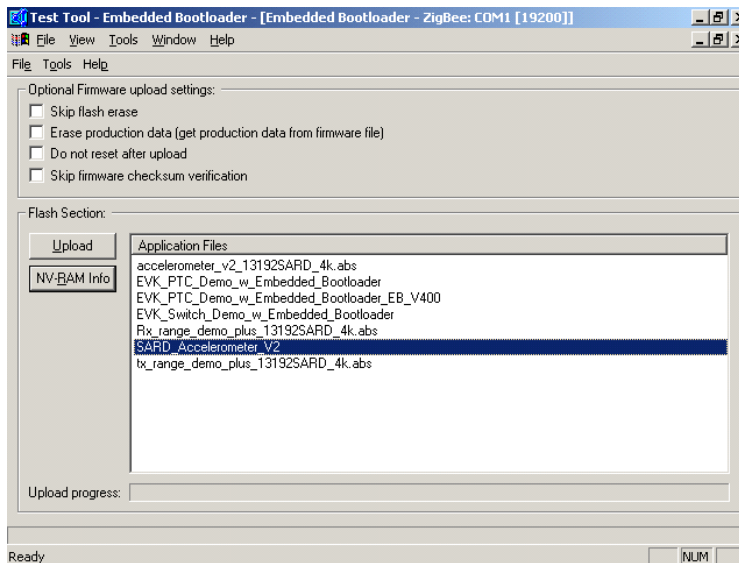

Figure 3-5. Test Tool Window (Bootloader Application Select)
12. As shown in Figure 3-5, select the desired application for flashing from the Application Files menu and click on the Upload button.